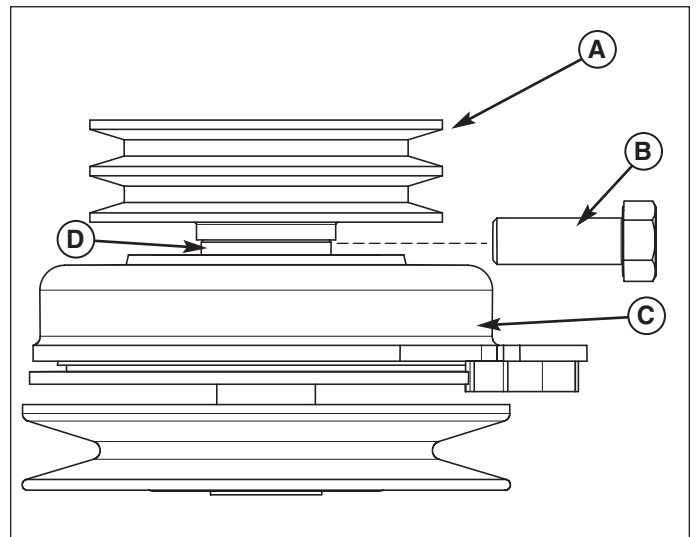

Figure 1. Inspecting the Machine
2. To evaluate whether the unit is affected, place a 5/8" bolt (B, Figure 1), (P/N #5025320X14 which is a 5/8-11 X 1-3/4" bolt, will work in this instance) between the crankshaft pulley (A) and the PTO clutch (C). If the shaft of the bolt slides in and makes contact with the spacer, the unit is not affected and no further action is required. If the shaft of the bolt does not slide in and make contact with the spacer, continue with the following corrective procedure.